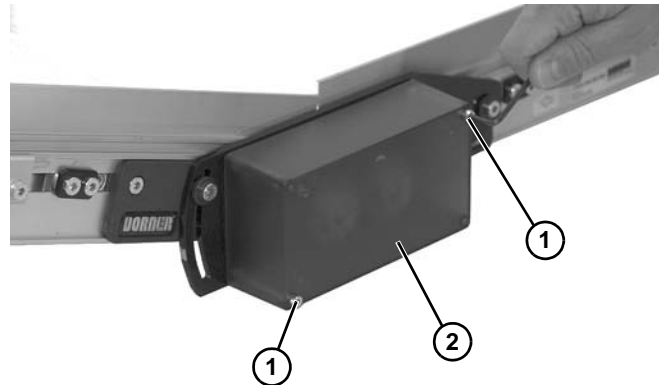

Figure 76
1. Remove two screws (Figure 76, item 1) and cover (Figure 76, item 2).